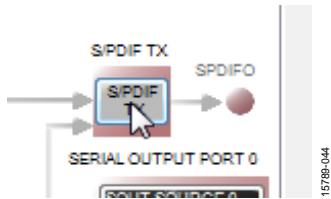

Figure 42. Configuring the S/PDIF Transmitter Routing Matrix Register
- a. Click the **S/PDIF TX** box (see Figure 42).